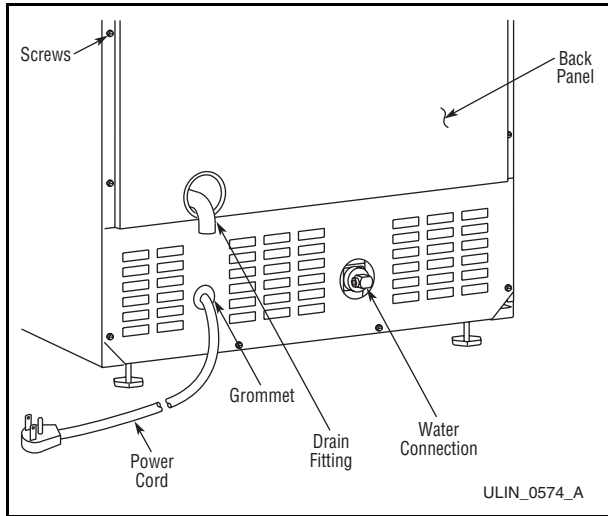

Figure 67
2. Carefully push the power cord grommet through the hole in the back panel (**Figure 67**).